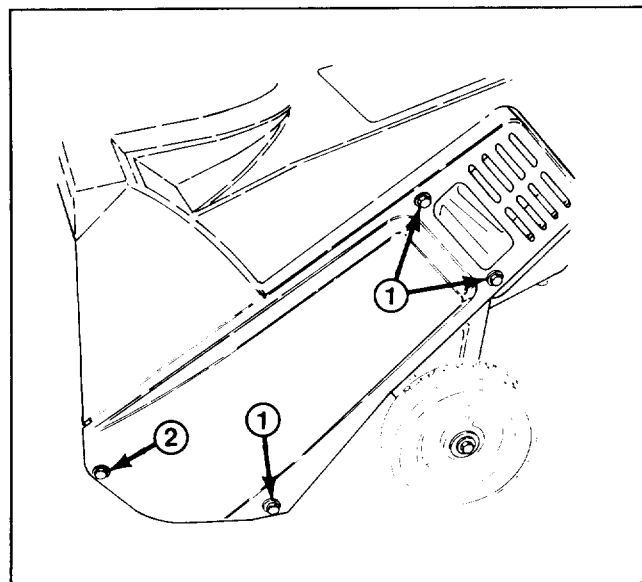

Figure 11
## REPLACING DRIVE BELT (Figs. 11–13)
2. Remove (3) self tapping screws, (1) capscrew, (1) washer, and (1) nut securing left side cover to snowthrower frame (Fig. 11). Remove cover.